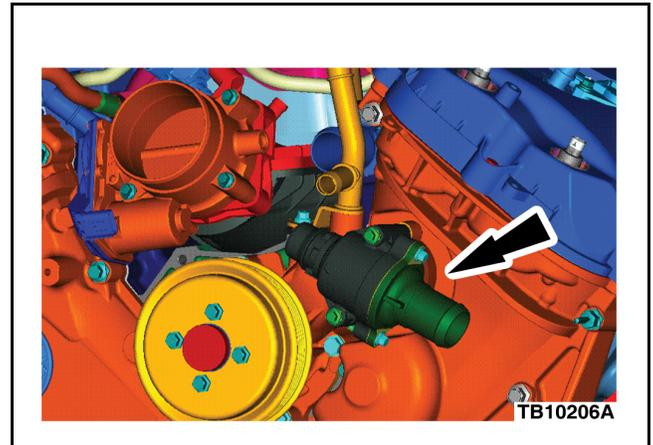

Figure 1 - Article 12-3-1
4. Is the noise heard in areas shown? (Figures 1 and 2)
6. Is the noise heard in the areas shown? (Figures 1 and 2)